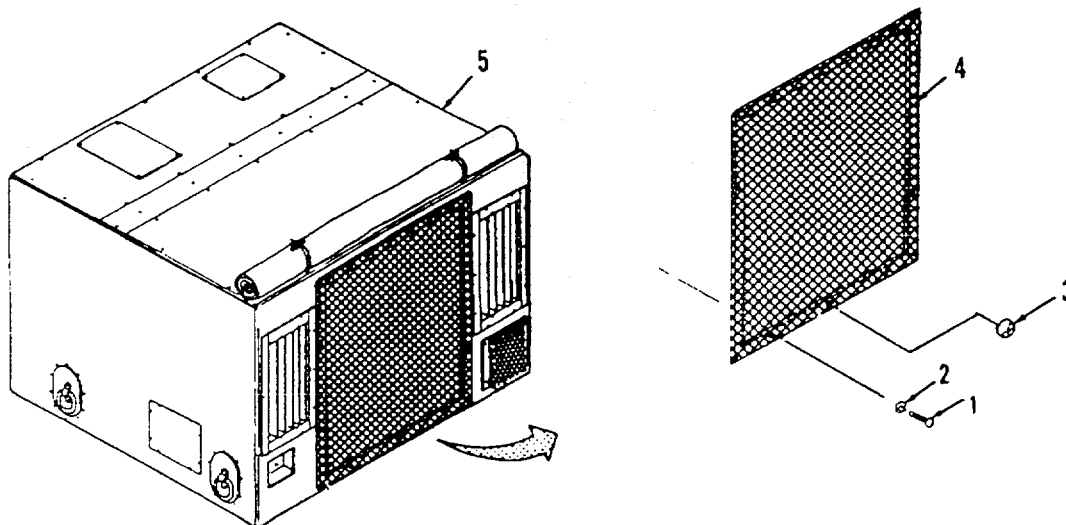

Figure 3-14. Condenser Coil Guard .
**a. Removal** (Refer to Figure 3-14).